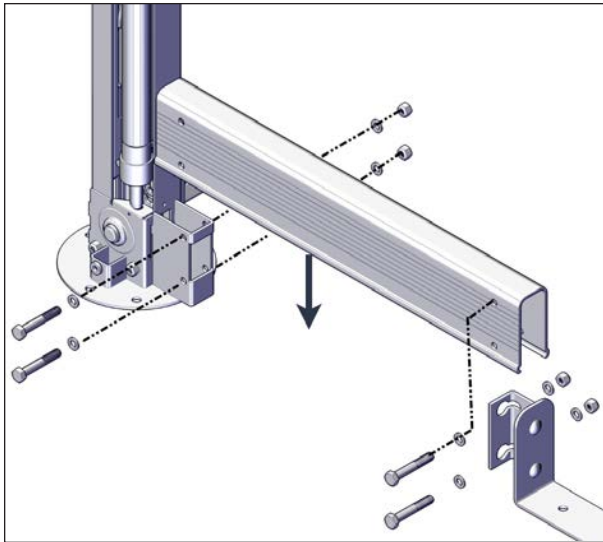

FIGURE 43: SHORT U-SHAPE INSTALLATION
14. Fasten a short U-frame to each end of the spa entrance U-frame link and then install the entire assembly between the front posts. Use four hexagonal 5/16"-18 x 2" bolts, four 5/16"-18 nylon-insert lock nuts and eight 5/16" washers (4 by side). Use 1/2" (13 mm) socket wrench and spanner see Figure 43.